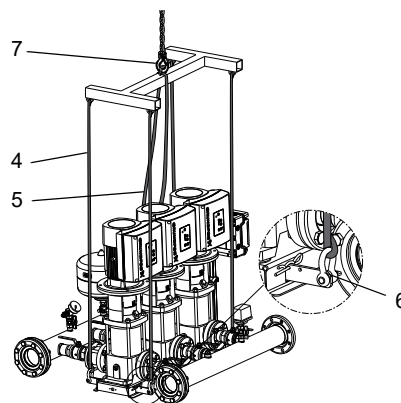

Fig. 3 Lifting gear that ensures a vertical lift for Hydro Multi-E system with a bent formed base frame
- Use lifting gear that ensures a vertical lift. See fig. 3.
- Use a safety strap around one of the pump motors to prevent the system from tilting. See fig. 3.